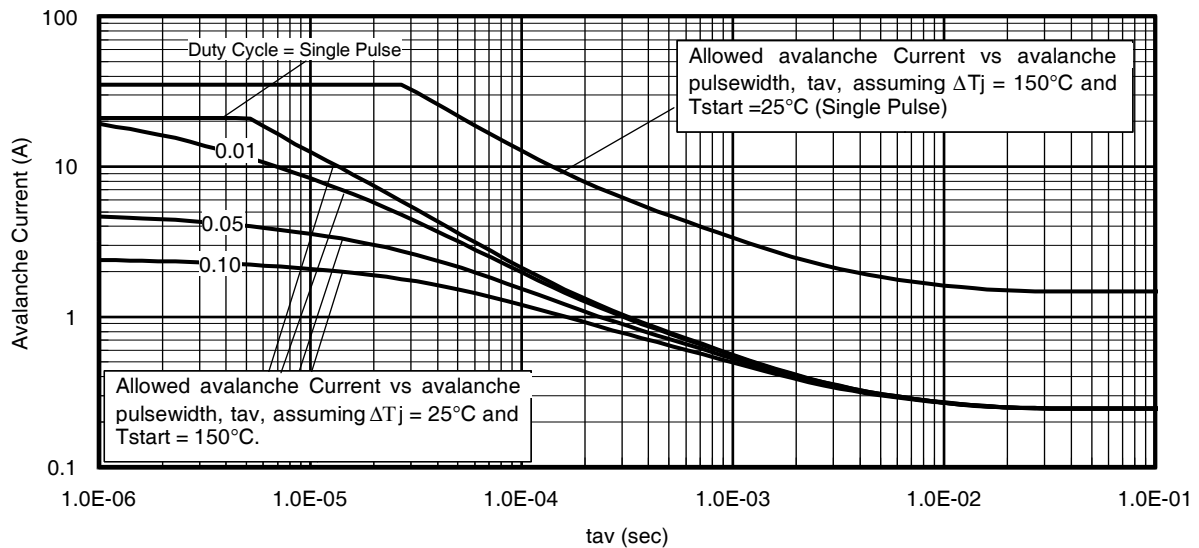

Fig 14. Typical Avalanche Current Vs. Pulsewidth
- ① Repetitive rating; pulse width limited by max. junction temperature.
- ② Starting $T_J = 25^\circ\text{C}$, $L = 0.51mH$, $R_G = 25\Omega$, $I_{AS} = 21A$.
- ③ Pulse width $\leq 400\mu s$; duty cycle $\leq 2\%$.
- ④ R_{θ} is measured at T_J of approximately 90°C .
- ⑤ Limited by T_{Jmax} . See Figs. 14, 15, 17a, 17b for repetitive avalanche information
- ⑥ When mounted on 1" square PCB (FR-4 or G-10 Material). For recommended footprint and soldering techniques refer to application note #AN-994.
Notes on Repetitive Avalanche Curves , Figures 14, 15:
7. ΔT = Allowable rise in junction temperature, not to exceed T_{jmax} (assumed as 25°C in Figure 14, 15).